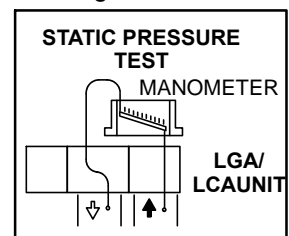

FIGURE 9
- 1- Measure tap locations as shown in figure 9.